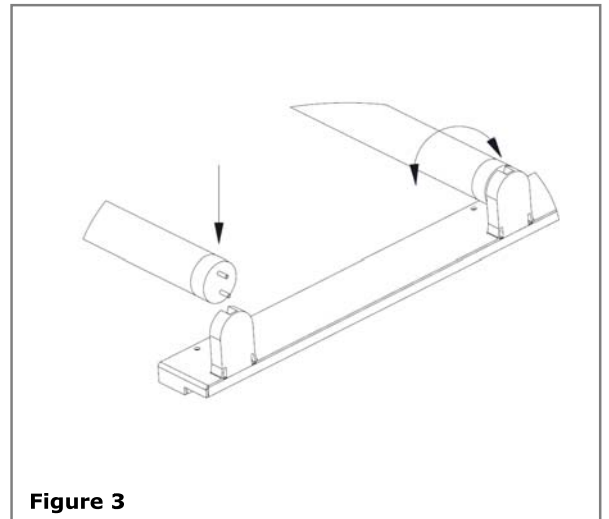

Figure 3
3. Unwrap the lamps and install into lamp sockets by inserting the prongs into the sockets and turning until they lock into position. **See Figure 3.**